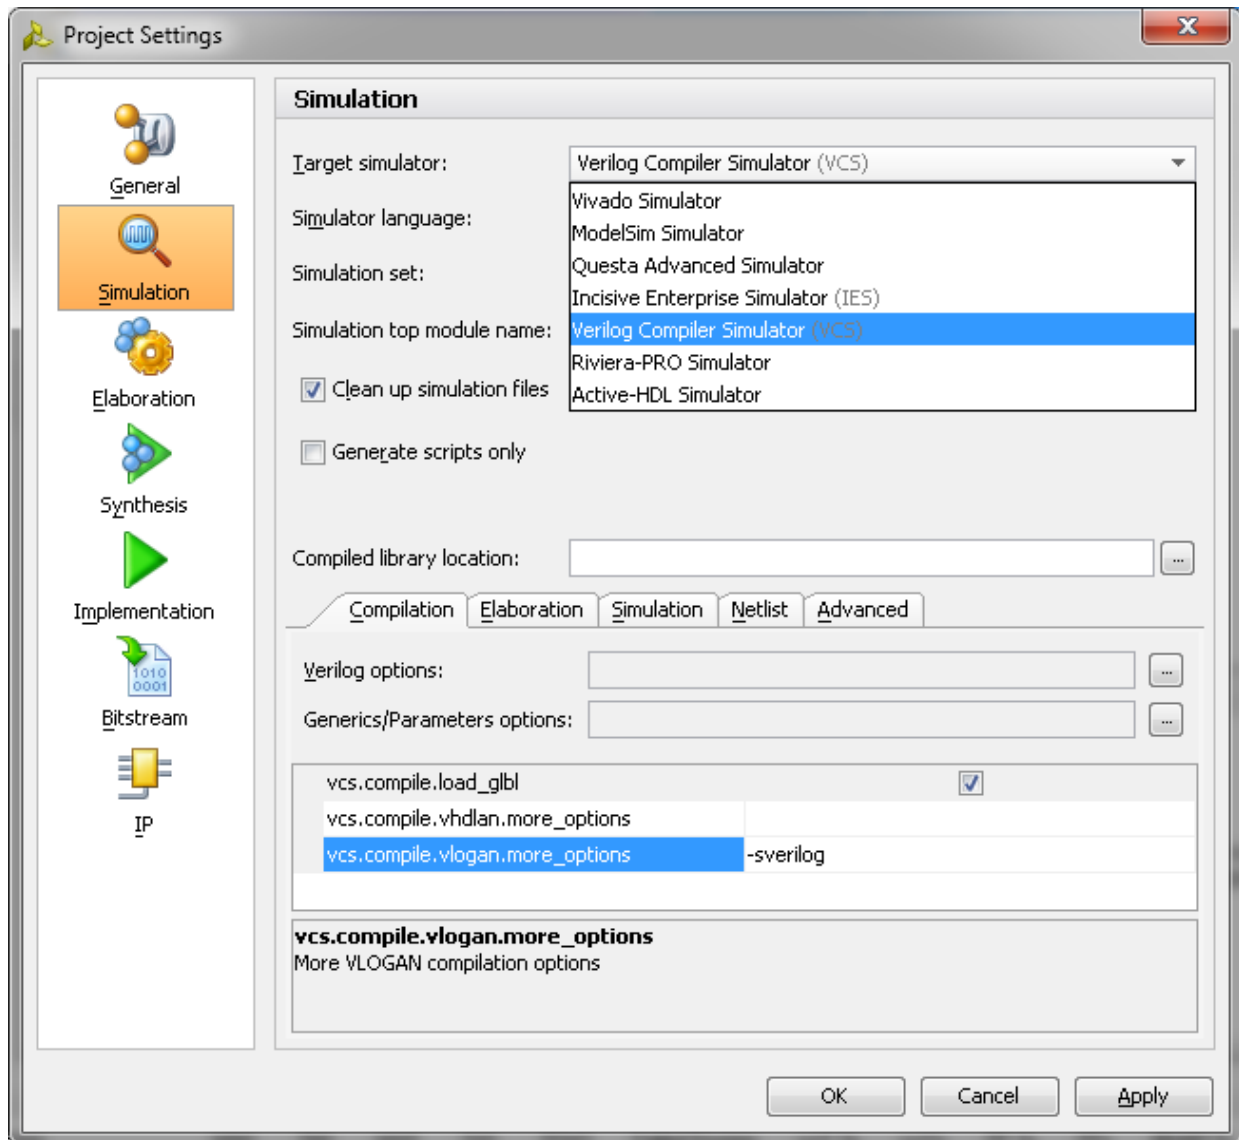

Figure 4-42: Simulation with VCS
- c. Under the **Simulation** tab, set the `vcs.simulate.runtime` to 1 ms (there are simulation RTL directives which stop the simulation after a certain period of time which is less than 1 ms) as shown in Figure 4-42.